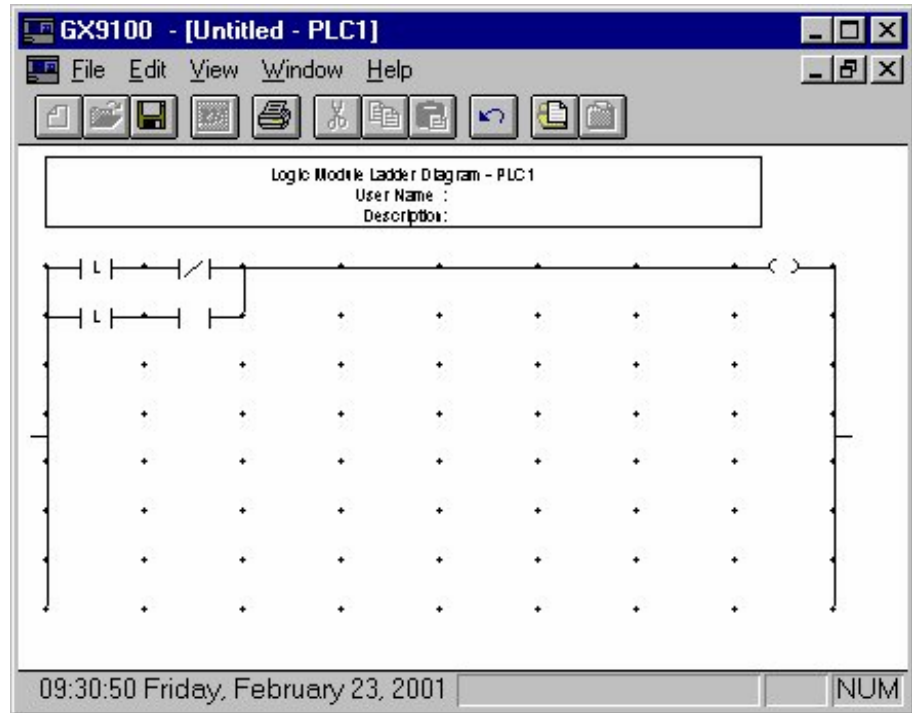

Figure 5-4: PLC Ladder Diagram Example
3. Continue to click on unused hot points and add instructions to the ladder diagram until the PLC program is complete (Figure 5-4).